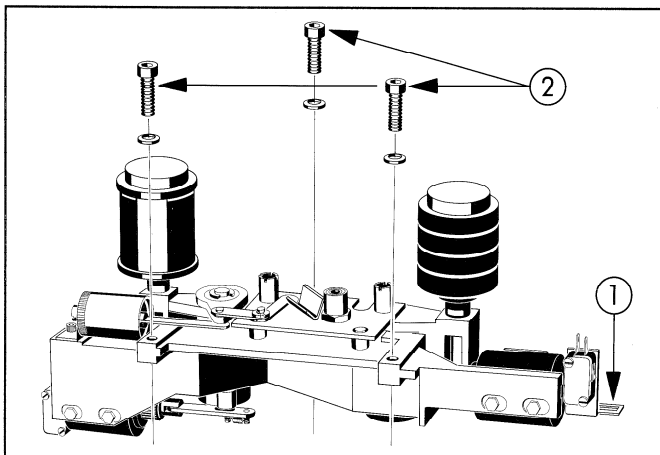

Fig. 6
5. A80-2" / A800-2" pinch - roller (see fig. 6, 7 and 8)
- Unplug moxex connector (pos. 1).
- Remove pinch-roller-assembly, 3 pcs. 3mm hex-screws (pos. 2).
- Remove pinch-roller including its axle, 10mm nut (pos. 3).
- Mount new pinch-roller with axle and slightly tighten nut (pos. 3). Make sure, that movement of pinch-roller towards the capstan performs smoothly by: